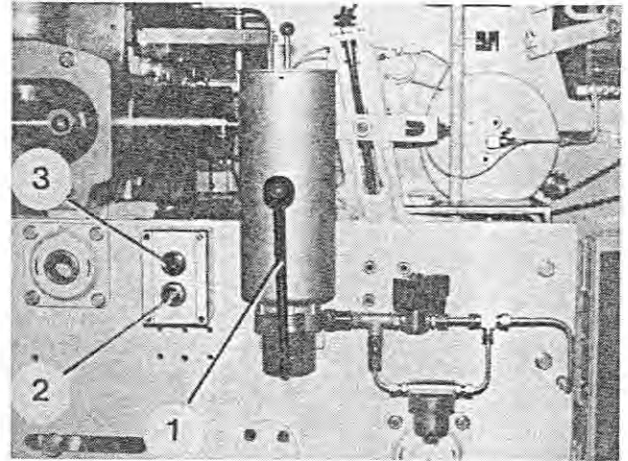

Fig. 53
2. Actuate the lever (Figure 53/1) of the lubricating pump until the white indicator lamp is lit (Figure 53/2).
3. After the green indicator lamp (Figure 53/3) is lit, run the machine for another minute. Then, switch it off.